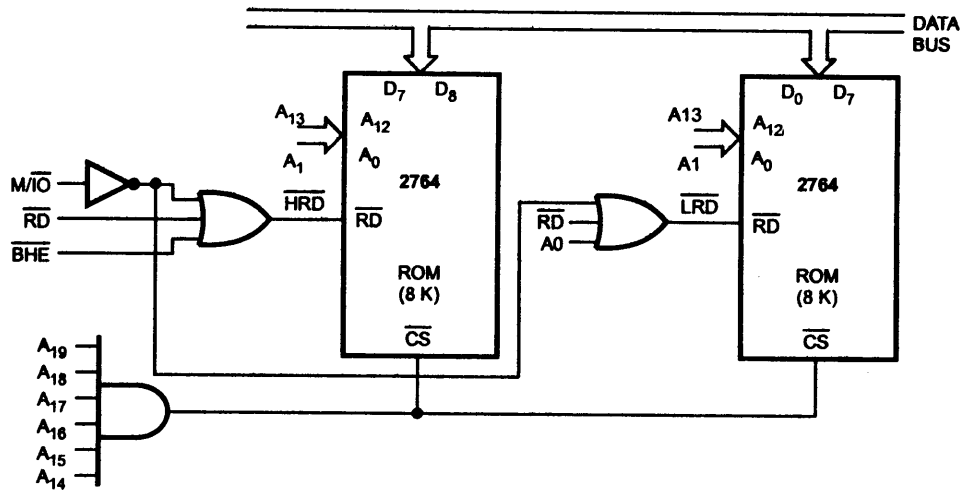

Fig. 8.3 Absolute decoding
**1) Absolute Decoding :** In absolute decoding technique the memory chip is selected only for the specified logic level on the address lines; no other logic levels can select the chip. Fig 8.3 shows the memory interface with absolute decoding. Two 8 K EPROMs (2764) are used to provide even and odd memory banks. Control signals  $\overline{BHE}$  and  $A_0$  are used to enable outputs of odd and even memory banks respectively. As each memory chip has 8 K memory locations, thirteen address lines are required to address each locations,
In small systems, hardware for the decoding logic can be eliminated by using only required number of addressing lines (not all). Other lines are simply ignored. This technique is referred as linear decoding or partial decoding. Fig 8.3 shows the addressing of 16 K RAM (6264) with linear decoding. Control signals BHE and A0 are used to enable odd and even memory banks, respectively. The address line A19 is used to select the RAM chips. When A19 is low, chip is selected, otherwise it is disabled. The status of A14 to A18